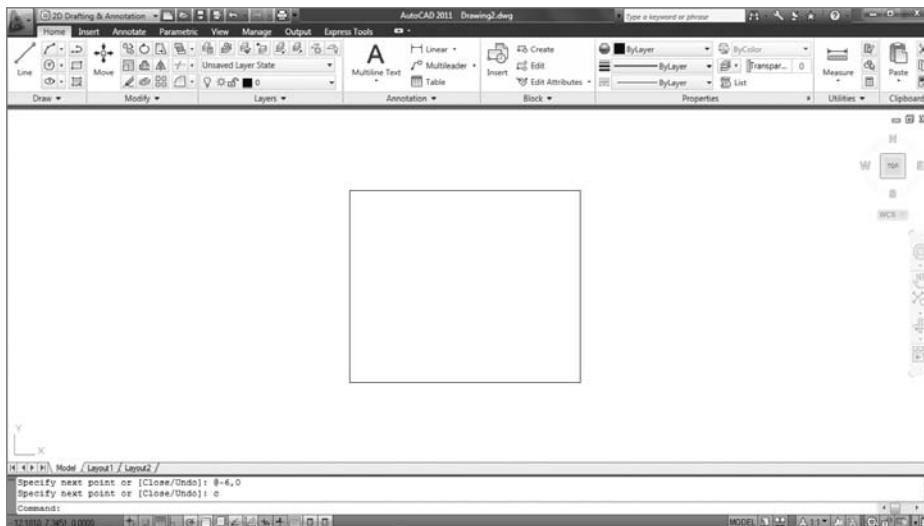

FIGURE 2.16 The first four lines of the box
9. Enter **C,J** to execute the Close option. Entering this letter after drawing two or more lines closes the shape by extending the next line segment from the last point specified to the first point (see Figure 2.16). It also ends the LINE command. Notice that in the command window the prompt is **Command:**. This signifies that AutoCAD is ready for a new command.
6. Enter **C.↓** to close the box and end the LINE command. Your box once again resembles the box shown earlier in Figure 2.16.
8. Enter **C-J** to close the box and end the **LINE** command. Your box once again resembles the box shown in Figure 2.16 earlier.